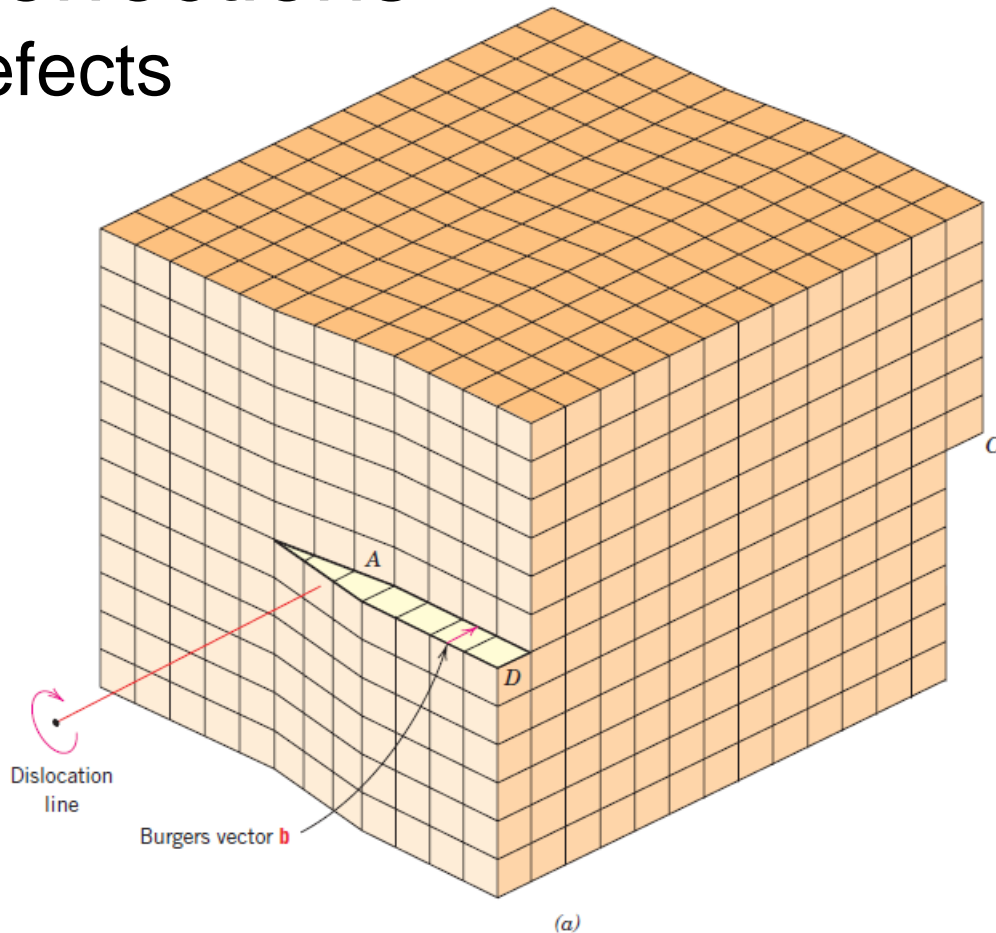

Figure 4.4 (a) A screw dislocation within a crystal.
- Screw Dislocation: The atomic distortion associated with a screw dislocation is also linear and along a dislocation line, line AB in Figure 4.4*b*.
Figure 4.4 (b) The screw dislocation in (a) as viewed from above. The dislocation line extends along line AB . Atom positions above the slip plane are designated by open circles, those below by solid circles.